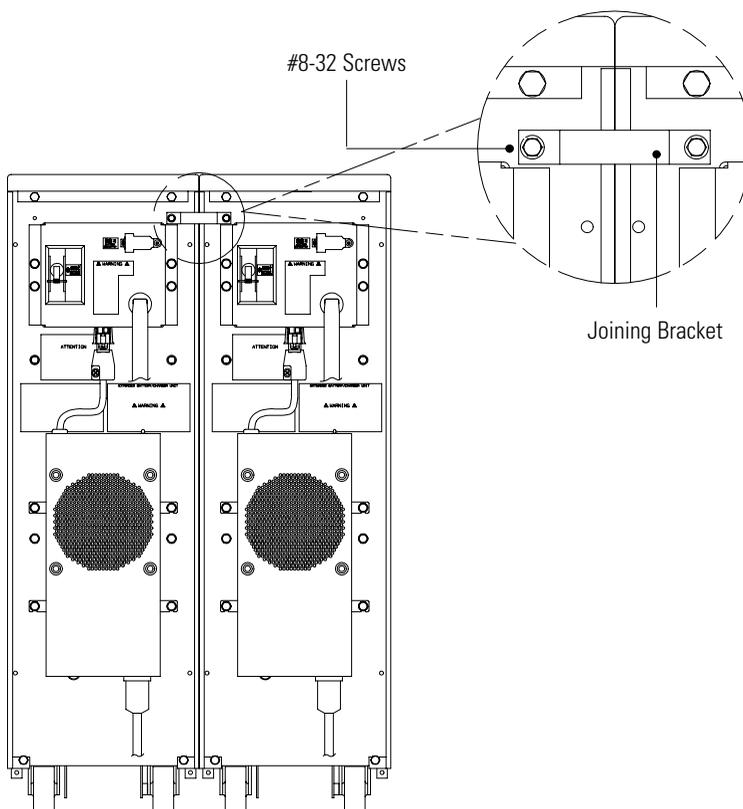
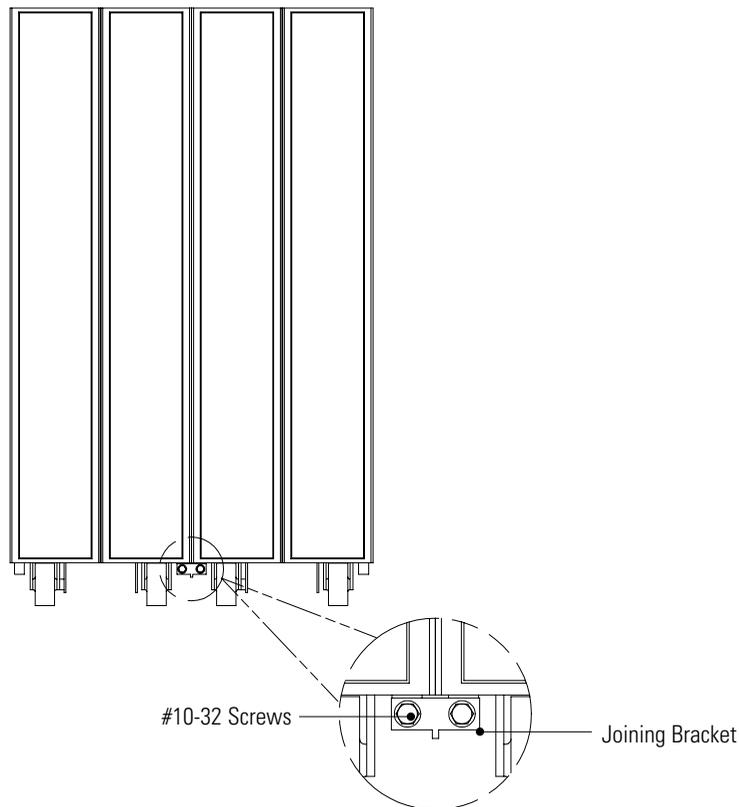

Figure 3. EBC Joining Details (Rear View)
Figure 4. EBC Joining Details (Front View)
- With the cabinets now in their final position, join the cabinets together using the hardware provided in the kit tied to the rear of each unit. See Figure 3 and Figure 4 for joining details.